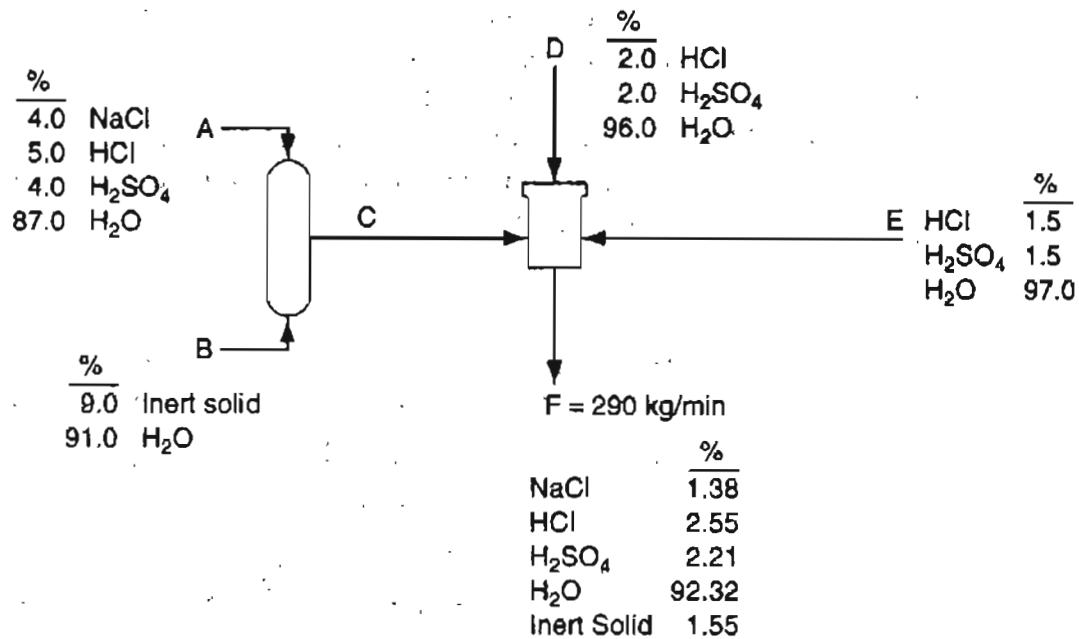

Figure P11.10
- **11.10 Several streams are mixed as shown in Figure P11.10. Calculate the flows of each stream in kg/s.